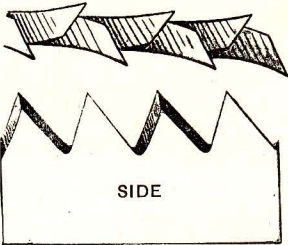
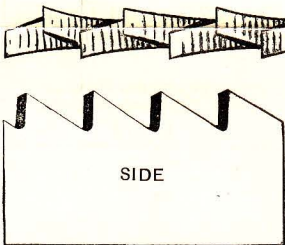
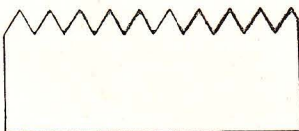

Fig. 2
Fig. 3
Fig. 5
B. If the teeth are of uniform size and correct shape as shown in Figure 2 and Figure 3, operations 2 and 3 will be omitted. Proceed with operation 4 "Setting" and 5 "Filing."
After "jointing" all teeth must be filed to conform in outline to the shape as shown in Figure 5, for a cross cut saw or Figure 3 (side view) for a rip saw.
Figure 2 illustrates the bevel obtained in correctly sharpening a cross cut saw. Figure 3 shows a correctly sharpened rip saw.